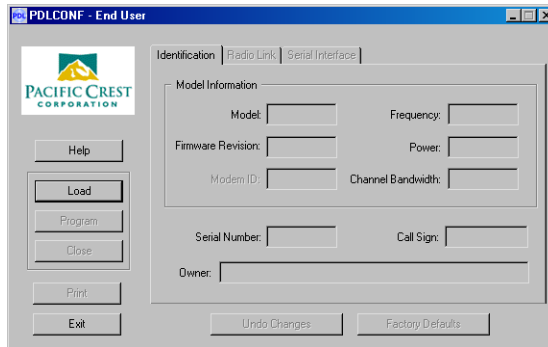

Figure 2-24. PDL Radio Configuration Main Screen
- Run the PDL Radio Configuration Program (pdlconf.exe) from Pacific Crest (Figure 2-24).